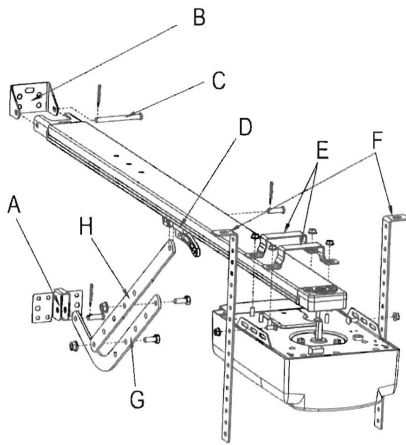

Fig.5
1. Fixing the wall bracket(B) to the wall 2cm-15cm over the shaft or intermediate bracket ,and should be center horizontally. (depending on the actual installation space).
2. Fixing the steel track to the wall bracket using axis pin $\Phi 8 \times 80$ (C) and cotter pin. (Fig. 5)
4. Fixing the hanging bracket(F) to the edge of the opener as in Fig. 5 using M6x16 carriage bolt(before fastening, cut off any excess hanging bracket).
6. Fix the door bracket(A) to the top edge of the door(should be in the middle and under the wall bracket)
7. Connect the bent arm(G) to the door bracket using a $\Phi 8 \times 25$ axle pin and cotter pin as shown in Fig.5.
8. Install the shuttle(D) to the track using 4pcs of M6x20 screws(Fig.6), tie the clutch cord. Connect the straight arm(H) to the clutch using a $\Phi 8 \times 25$ axle pin as shown in Fig.5.